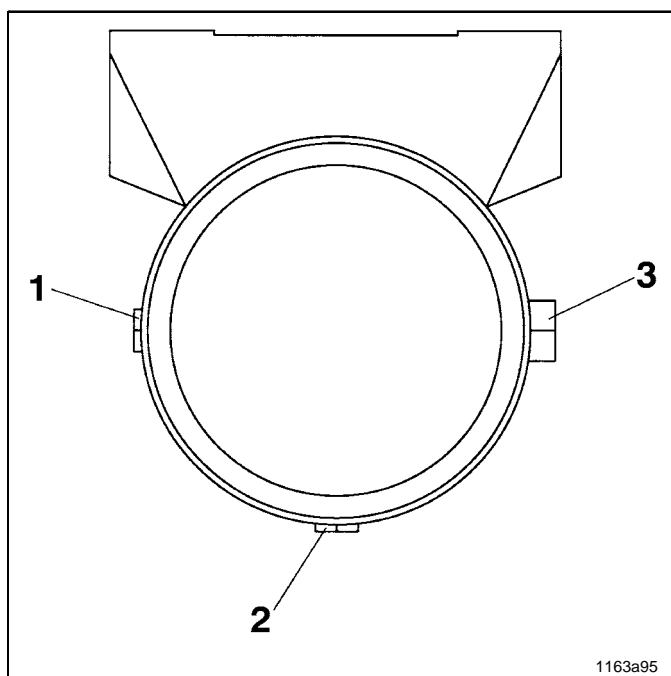

Fig. 12 Arrangement of the pump elements
- If several pump elements are to be installed, the installation arrangement shown in Fig. 12 must be adhered to.